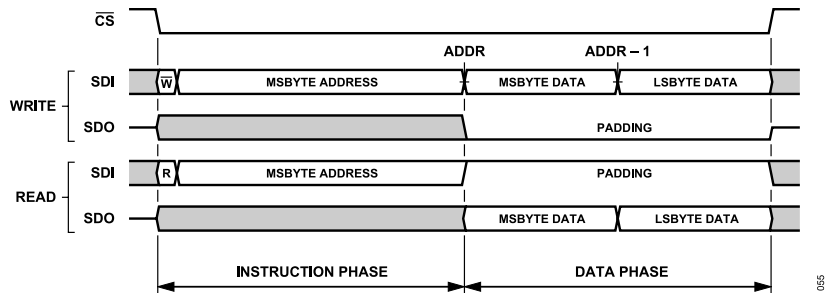
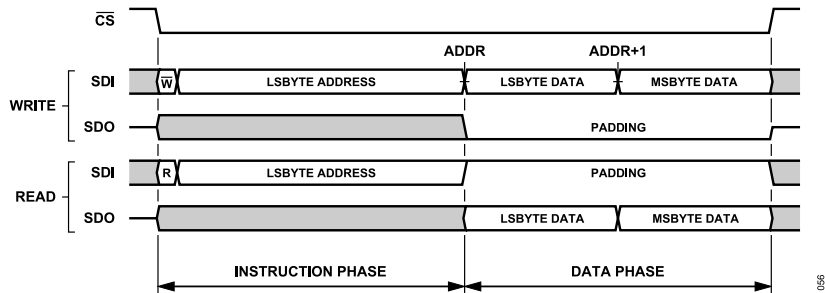

Figure 58. Single Instruction Format, ADDR\_ASCENSION = 0 (Descend), STRICT\_REGISTER\_ACCESS = 1 (Enabled)
Figure 59. Single Instruction Format, ADDR\_ASCENSION = 1 (Increment), STRICT\_REGISTER\_ACCESS = 1 (Enabled)
As indicated in Figure 58, the address counter, by default, automatically decrements (ADDR\_ASCENSION = 0) such that the most significant byte of the multibyte register is accessed first, followed
As an extension of this concept, when STRICT\_REGISTER\_ACCESS = 1, any SPI frame that accesses a multibyte register as the first entity in the data transfer must correctly set the starting address in the instruction word to correspond to the ADDR\_ASCENSION selection. In the case that the address counter automatically decrements (ADDR\_ASCENSION = 0), the starting address is assigned to the register address for the least significant byte of that multibyte register, and conversely, if configured to increment automatically, the starting address must be set to the register address for the most significant byte. As a result of the change to ADDR\_ASCENSION from automatic address decrement (0) to automatic increment (1), Figure 55 and Figure 56 will change as illustrated in Figure 58 and Figure 59 to accommodate the changes in data phase byte order and instruction phase multibyte register start address.